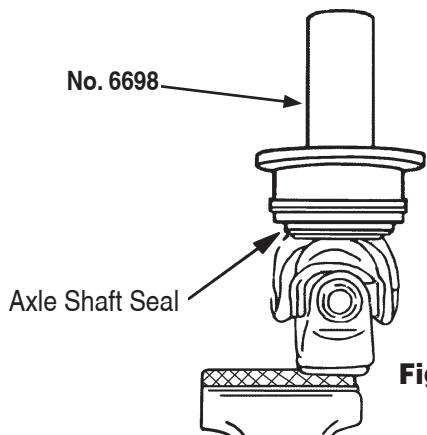

Figure 1
2. Position No. 6698 over the seal as shown in Fig. 1, and use a hammer to seat the seal onto the shaft.